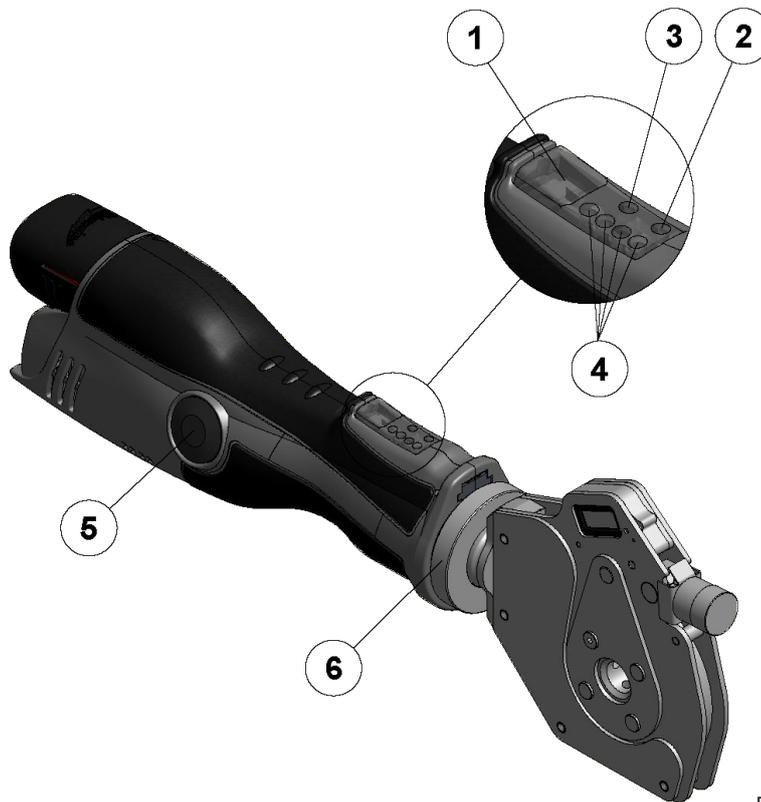

Figure 1
**Battery status display (Figure 1)**